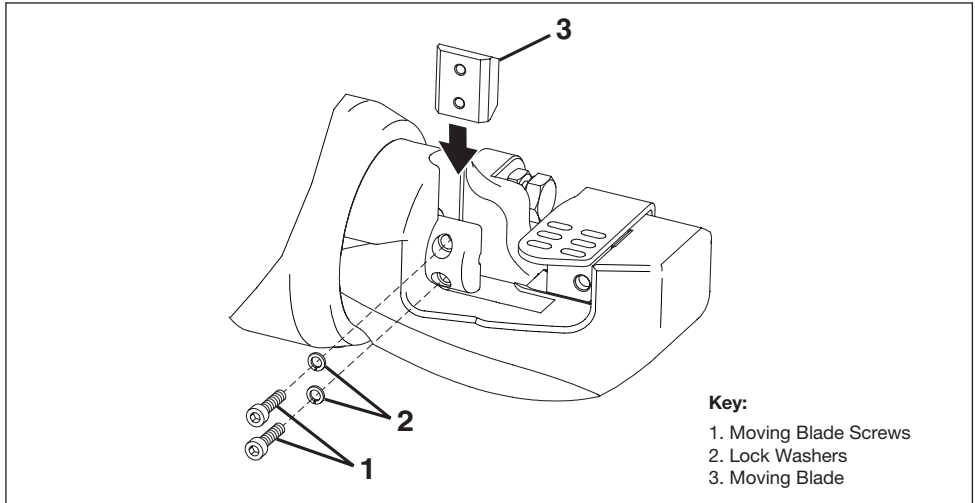

**Figure 9, Fixed Blade Replacement**
Replace the fixed blade as described in the following steps. Refer to Figure 9, items 1, 2 and 3.